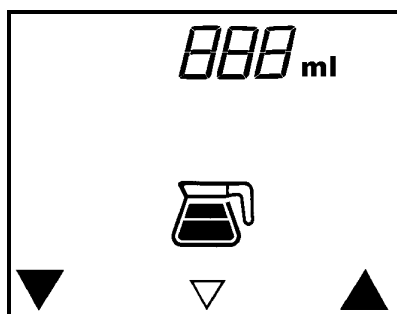
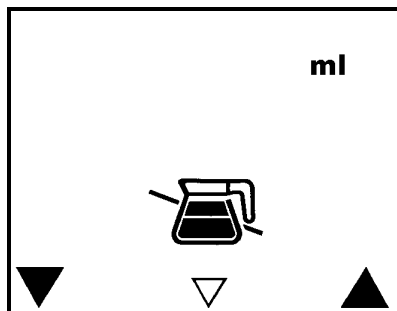

Fig. 12
Fig. 13
1. Select program 'setting quantity per decanter'. Figure 12 appears in the display.
2. Press the right-hand side of the setting key ← (13) for a larger quantity, (maximum approx. 720 ml).
3. Press the left-hand side of the setting key → (13) for a smaller quantity, (minimum approx. 480 ml).
4. If the left-hand side of the setting key → (13) is pressed once again after 480 ml, a decanter appears that is crossed out, see figure 13. This setting means that **no** decanters can be tapped - i.e. only cups.